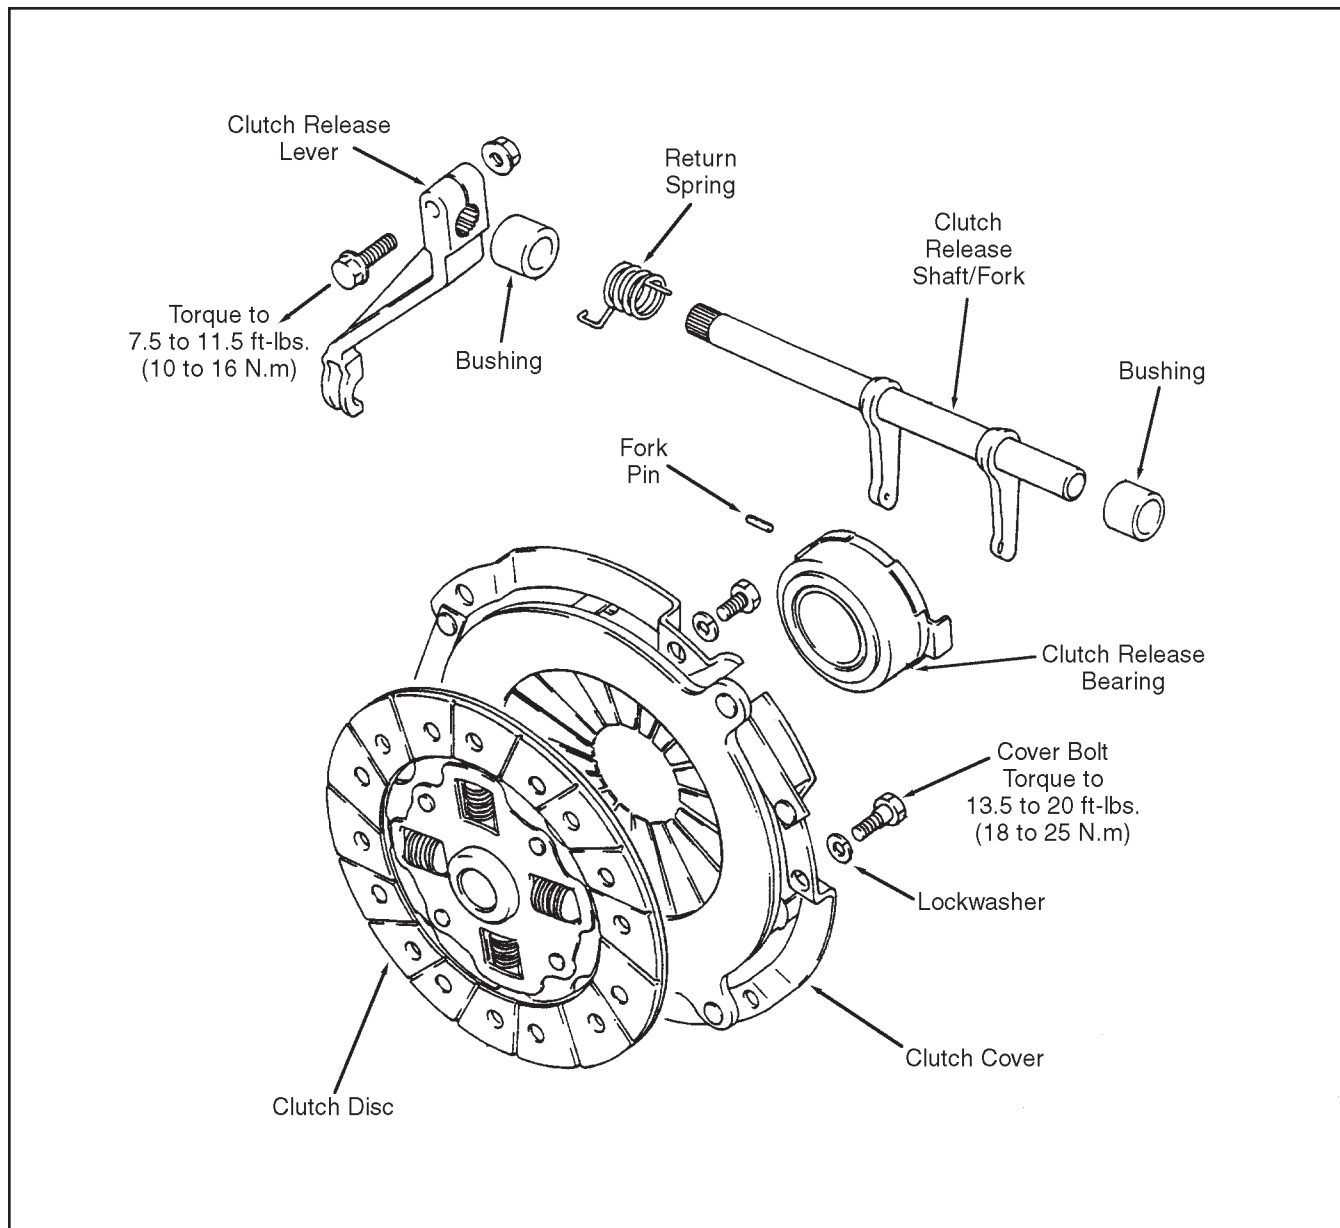

Figure 4D-3. Clutch Repair
4. Remove clutch release lever from shaft/fork. With clutch release bushing removal tool applied as shown in Figure 4D-4 tap its end to remove bushing. If bushing can not be removed from the transmission case in the above manner, grip bushing with pliers and pull out.